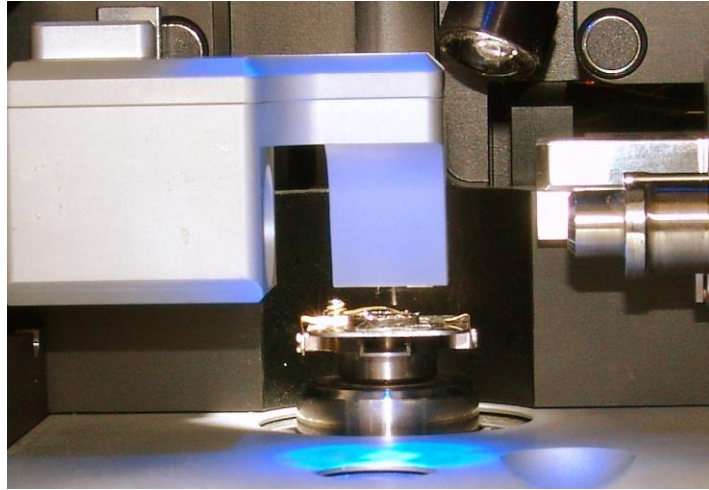

Fig. 6-27. STM head at its working position
5. Turn the measuring head to its working position manually (see Fig. 6-27).